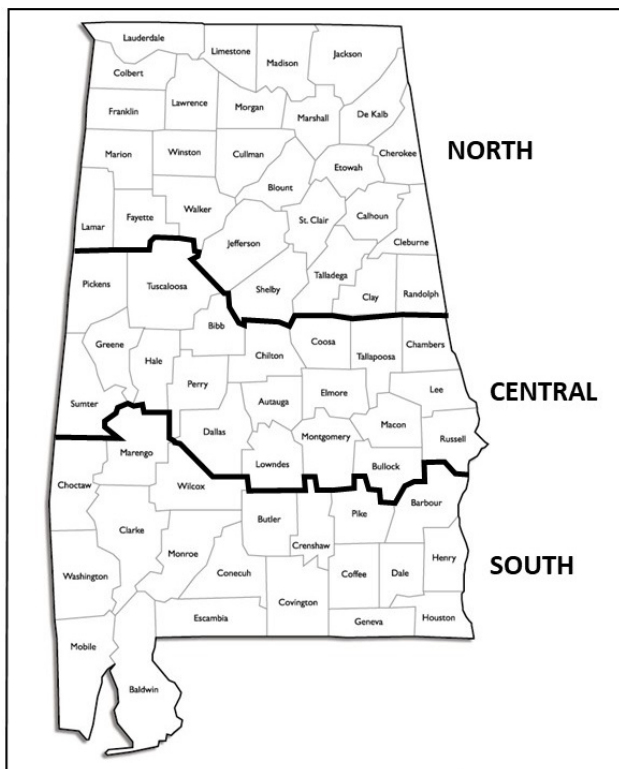

Figure PS-1 Geographical Areas for Species Adaptation
- Plant the species specified. In the absence of plans and specifications, plant species and seeding rates may be selected from Figure PS-1 and Table PS-1 by qualified persons.